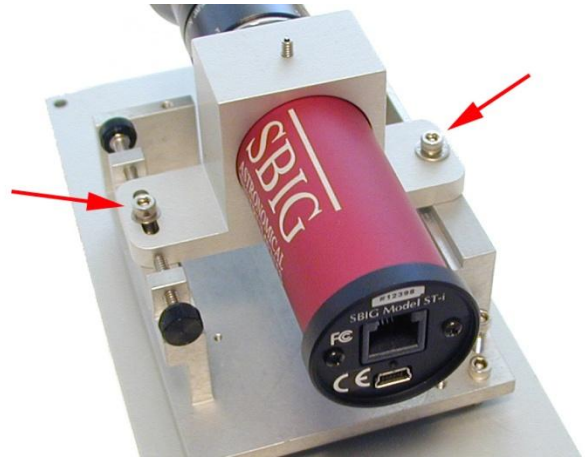

Fig 2
The power module, like any electronics, must be protected from the rain and kept dry. Make SURE when installing the power cable that the red lead is connected to the Plus (right) side of the power daughter board. The other cable required is an Ethernet cable. It connects from the Raspberry Pi to a router. SB Scientific does not provide the router but it is assumed the user has one to which the PC is also connected. The diagram in Figure 2 shows all these connections. When you have all connections made it is a good idea to secure the cables to your stand so that if you trip over the cables in the dark you do not rip connectors off of boards. Also, cables moving in the wind could perturb the seeing measurement.
2. Remove two socket head screws holding ST-I adjustable bracket. Lift off and set aside. (Fig. 2)